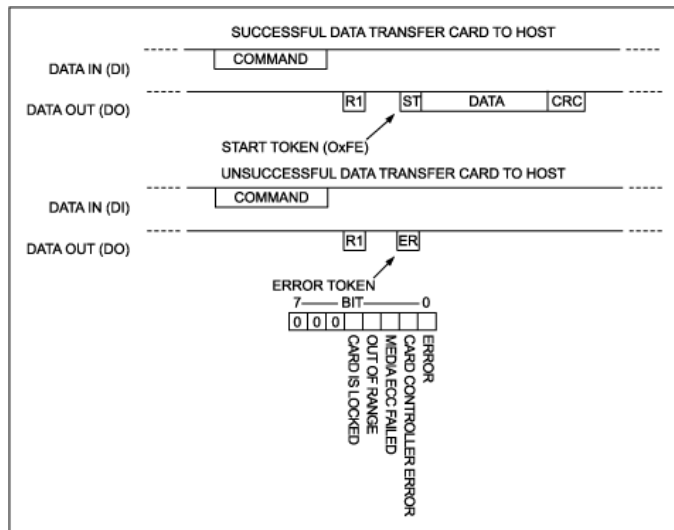

Figure 6. Data transfers from the SD card to the host are prefixed by a start token.
To read card registers or blocks from the card, we must first understand how the card responds to our inquiries. In SPI mode, the SD card replies to the commands SEND\_CSD (9), SEND\_CID (10), and READ\_SINGLE\_BLOCK (17) with a R1 format reply. A start token, the requested data, and finally a CRC-16 checksum over the data follow. We must not assume that the R1 reply and the data start token occur immediately one after the other, as the bus can go to the idle state for some time between these two events. **Figure 6** details the data response.